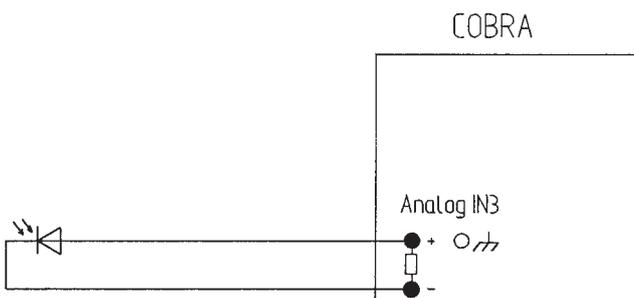

Fig. 3: Wiring diagram.
- According to Fig. 1, the thread is wound once over the smaller of the two thread grooves. The cable of the movement recorder is connected to the COBRA interface according to Fig. 2. The photodiode is connected to the resistor and to the analogue input 3 of the COBRA interface, as shown in Fig. 3.